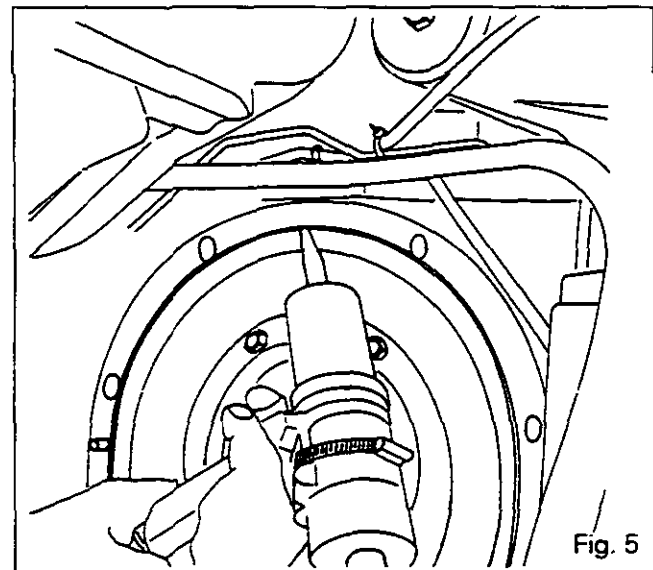

Fig. 5
19. Apply a bead of oil resistant (Silicomet type) silicone to the inner edge of the centre housing (Fig.5).